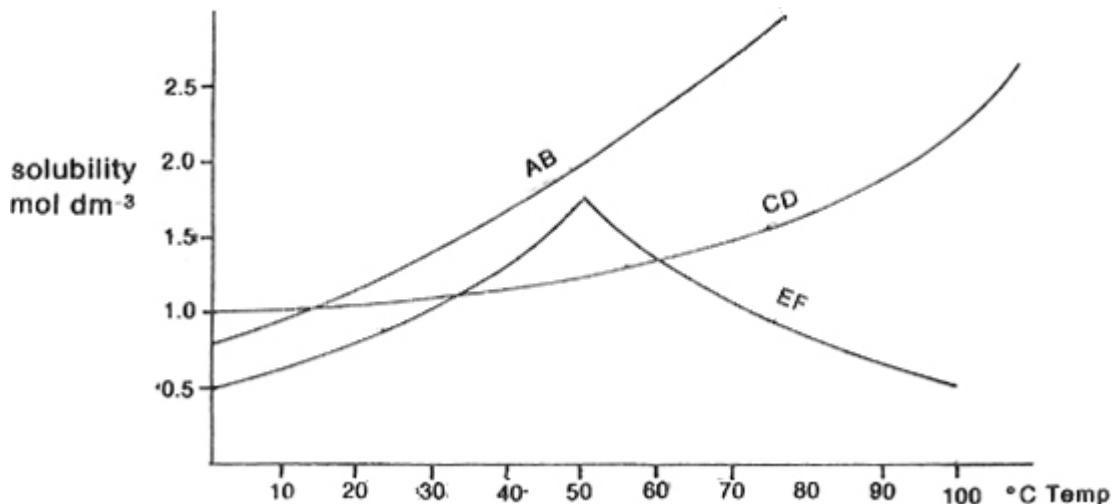

Figure 9.15
3. Figure 9.15 represents the solubility curves of the salts indicated.